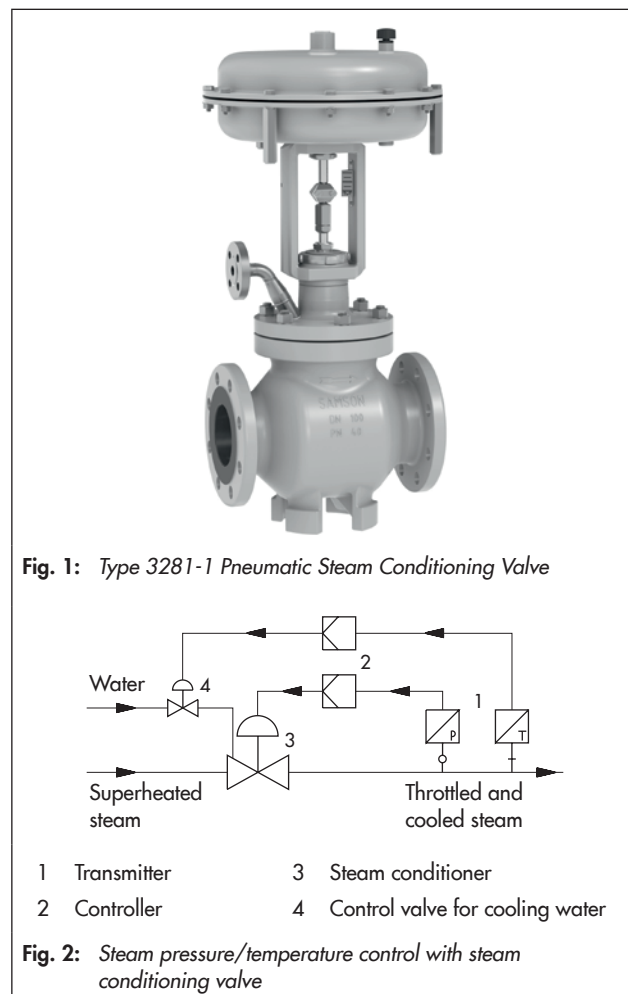

Fig. 1: Type 3281-1 Pneumatic Steam Conditioning Valve
- **Type 3281-1** (Fig. 1) · Type 3281 Steam Conditioning Valve and Type 3271 Actuator with 350 to 2800 cm² actuator area (see Data Sheets ► T 8310-1, ► T 8310-2 and ► T 8310-3)